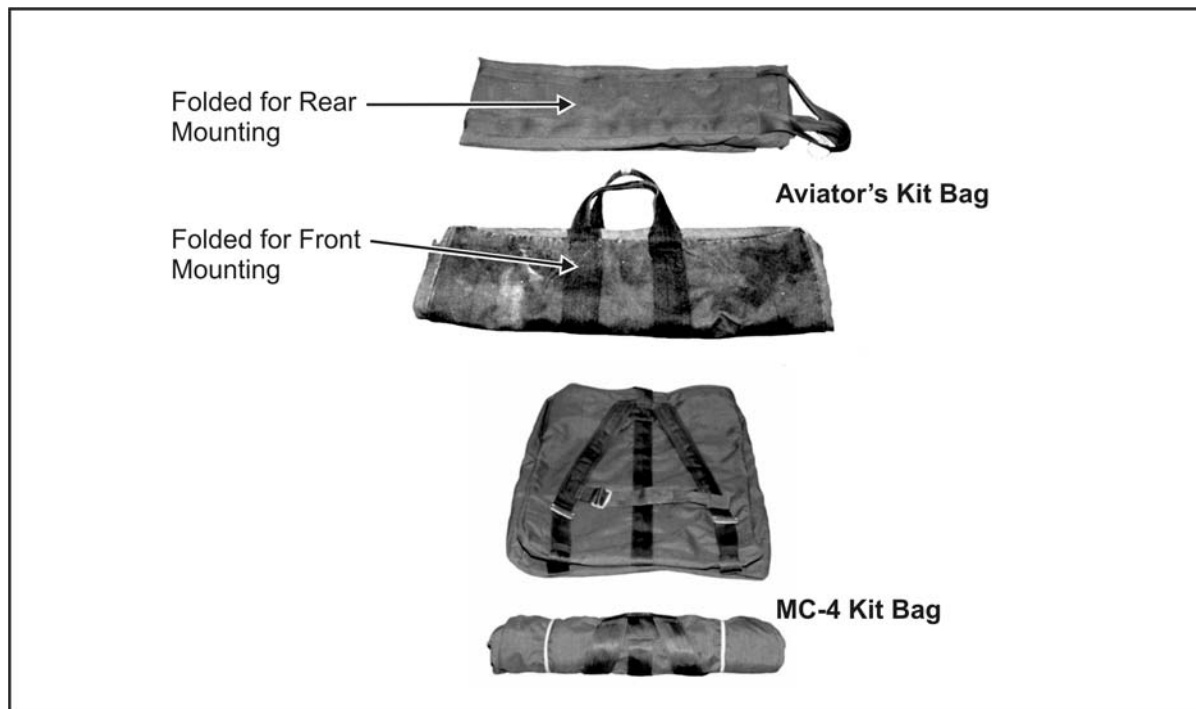

Figure 2-15. Aviator's and MC-4 Kit Bags
- *Aviator's kit bag.* The parachutist closes the slide fastener and secures all snap fasteners. If the kit bag is worn front-mounted, he folds it in two folds from the bottom leaving the handles centered (Figure 2-15, page 2-16). If the kit bag is worn rear-mounted, he folds each end of it with one fold toward the center leaving the handles exposed at one end (Figure 2-15).
the parachutist rolls it from bottom to top with shoulder straps exposed and places retainer bands on each end (Figure 2-15).